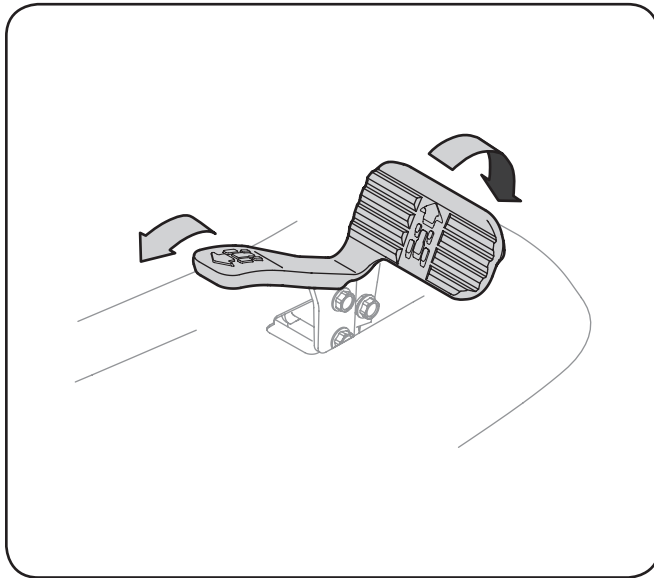

Figure 5-1
2. To travel FORWARD, slowly press the upper portion of the drive pedal forward until the desired speed is achieved. See Figure 5-1.
3. To travel in REVERSE, check that the area behind is clear then slowly depress the lower portion of the drive pedal with the ball of your foot (NOT your heel) until the desired speed is achieved. See Figure 5-1.